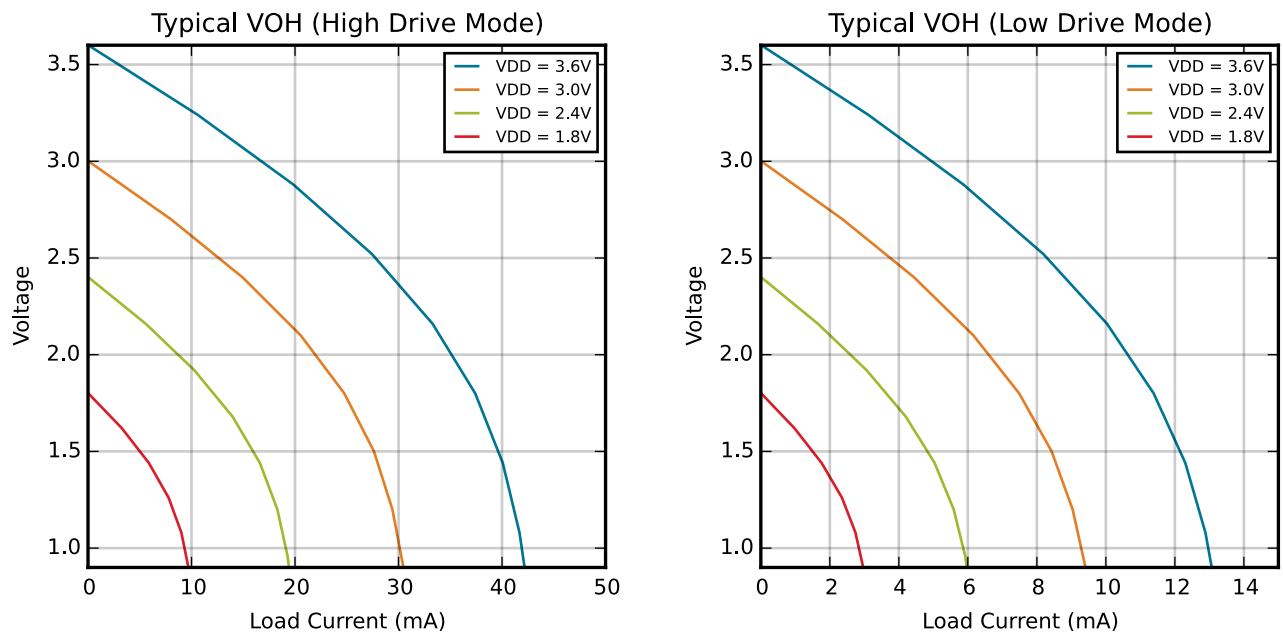
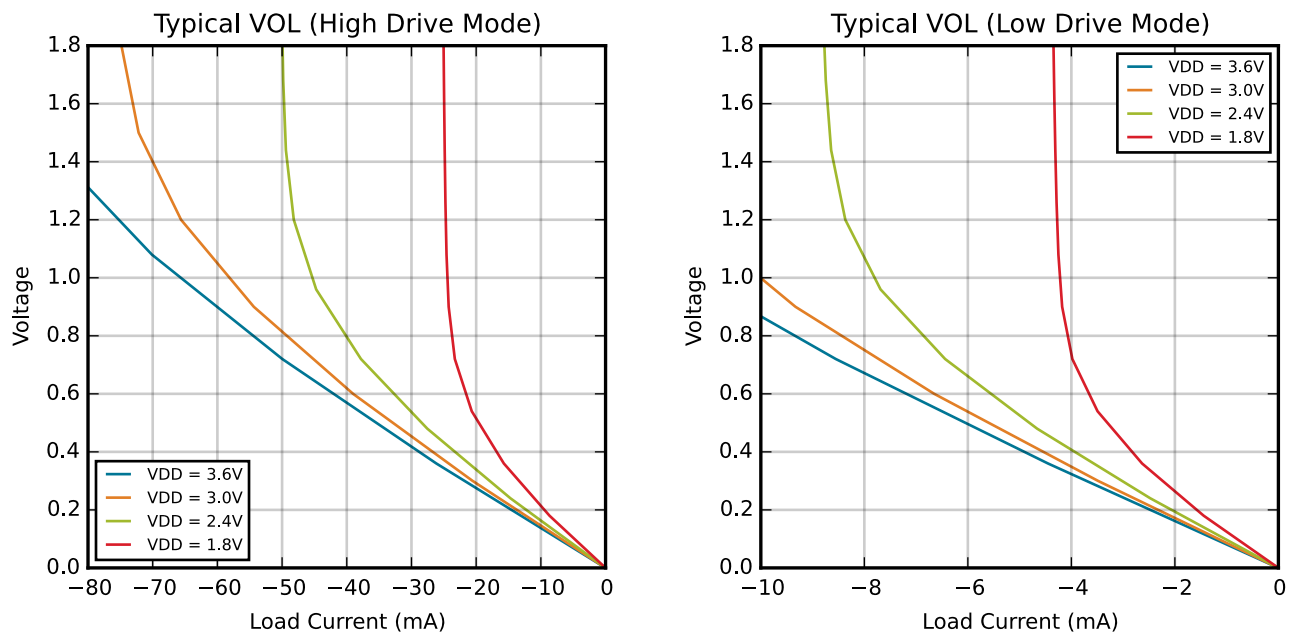

Figure 4.3. Typical V_{OH} Curves
Figure 4.4. Typical VOL Curves
1. See Figure 4.3 Typical V_{OH} Curves on page 29 and Figure 4.4 Typical V_{OL} Curves on page 30 for more information.